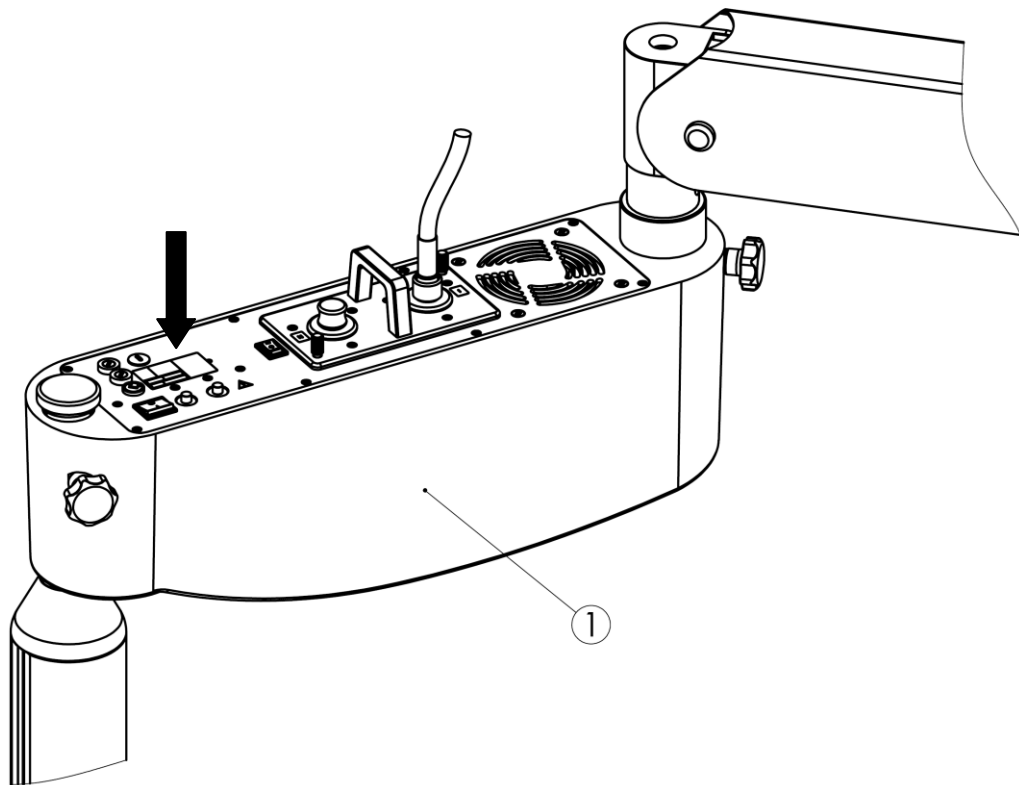

Fig. 9
The nameplate is used for accurate identification of your product. It may not be removed or modified. Figure 9 shows the position of the nameplate. It is located on the flat side of the swivel arm (1), regardless of device variant.